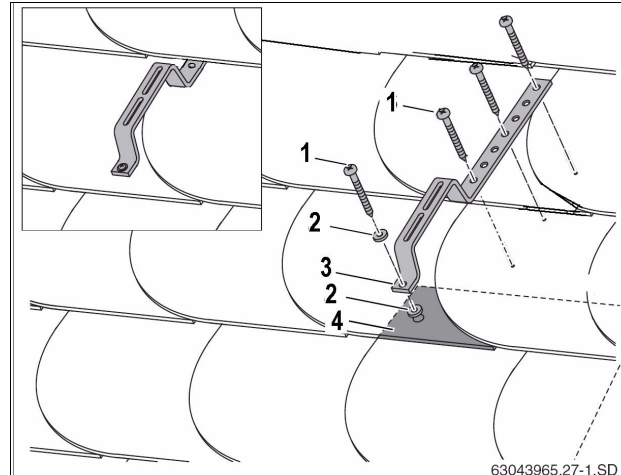

Fig. 23 Mounting on shingle roof
Fig. 23 shows a typical installation of the roof hook on an asphalt shingle, flat shingle, or slate roof. The long part of the hook faces upward and is covered by the adjacent rows of shingles.
- Install roof hook (Fig. 23, [3]) and gasket (Fig. 23, [2], not supplied) to the shingles using screw (Fig. 23, [1]).